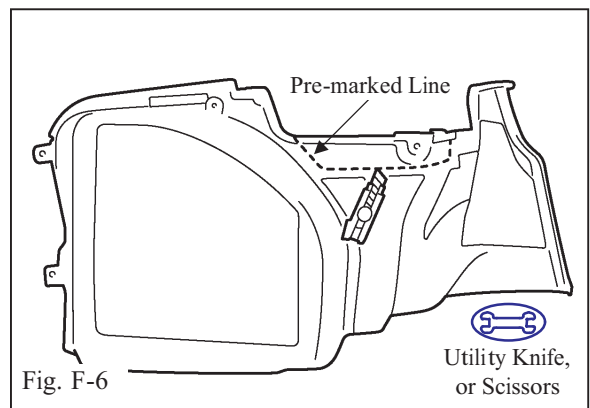

Fig. F-6
- +** ii. Remove a section of the trim cover with a utility knife or scissors along the pre-marked line as shown. (Fig. F-6)